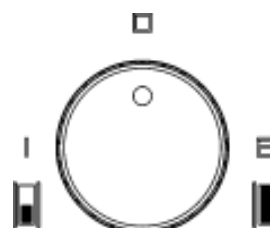

Fig. 2
grilling zone (parzial fig. **A**)  or the entire grilling zone (total fig. **B**)  rotate the knob (6) to the desired position (figure 2). Illumination of the indicator light (8) indicates that the appliance is being powered.